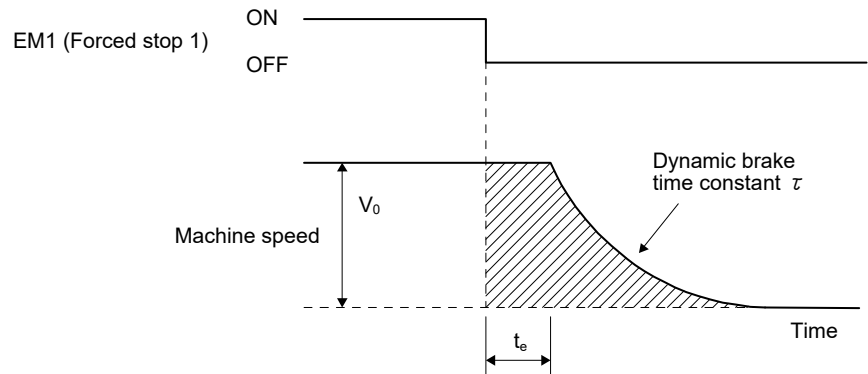

Fig. 10.3 Dynamic brake operation diagram
(1) Calculation of coasting distance
Fig. 10.3 shows the pattern in which the servo motor comes to a stop when the dynamic brake is operated. Use equation 10.4 to calculate an approximate coasting distance to a stop. The dynamic brake time constant τ varies with the servo motor and machine operation speeds. (Refer to (2) in this section.) A working part generally has a friction force. Therefore, actual coasting distance will be shorter than a maximum coasting distance calculated with the following equation.